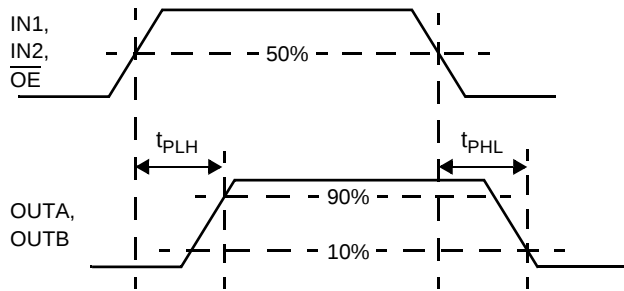

Figure 4. t_{PLH} , t_{PHL} , and t_{PZH} Timing
16. Load of Output is $8.0\text{ }\Omega$ resistance. see Figure 4